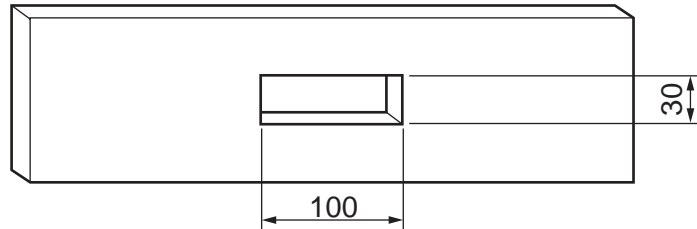

Fig. 1
- 1 Fig. 1 shows a drawer front made from 15 mm thick softwood.